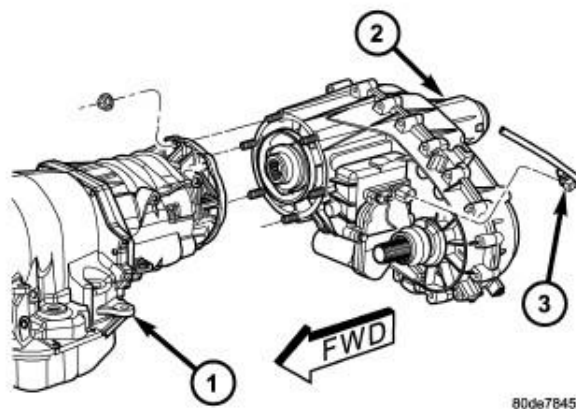

Figure 7 – Transfer Case
- 17. Disconnect transfer case shift motor and mode sensor wire connectors (3) and the transfer case wiring harness retainers (Figure 7).
22. Remove nuts attaching transfer case (2) to transmission (1) (Figure 7).